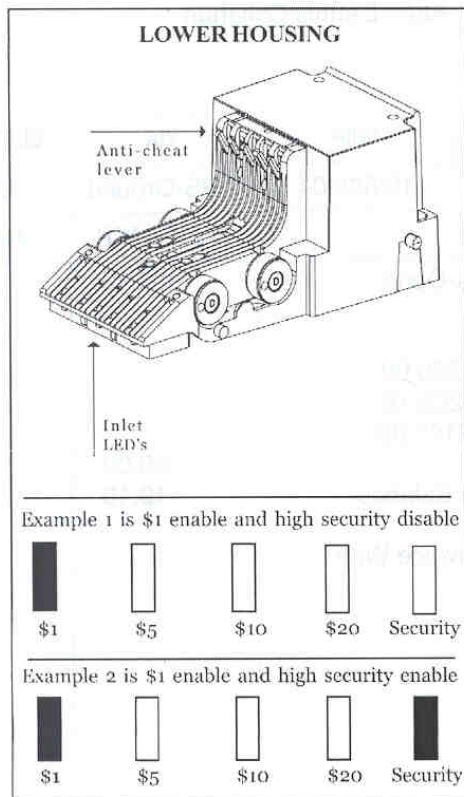

Figure 1
- Remove the lower housing (See Figure 1)
(Fig. 1)